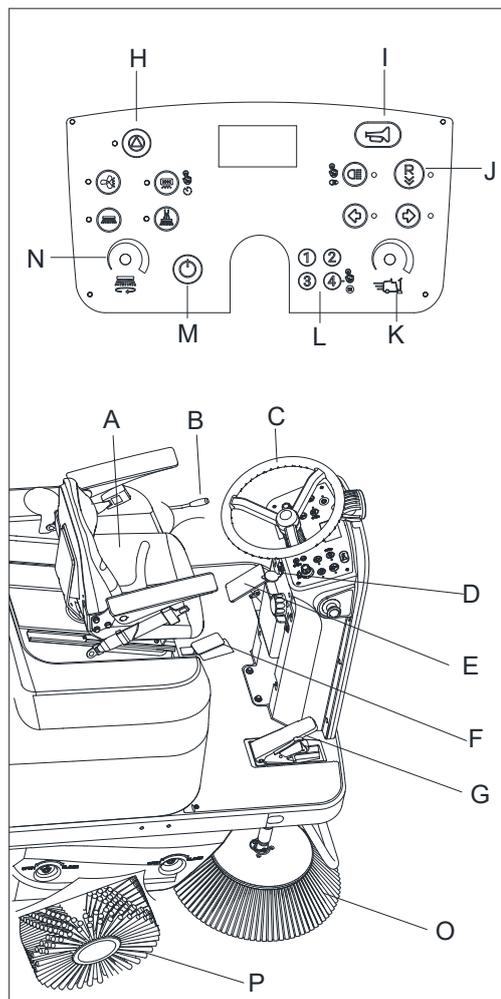

Figure 8
1. Sit on the driver's seat (A, Figure 8) and adjust its position with the lever (C, Figure 8) to allow easy reach of all controls.
2. Press the power button (M, Figure 8). Check the battery level on the display. If needed, charge the battery (refer to the maintenance section).
3. Use the 4-digit pin pad (L, Figure 8) to enter the password. The default password is 1234.
4. After successfully logging in, release the brake (E, Figure 8), press the accelerator pedal (G, Figure 8) and drive the machine to the work area.
5. Press the start button (H, Figure 8) to start the cleaning mode. The side brooms and main broom will automatically lower to the ground, and the dust fan will start working.
6. Press the accelerator pedal (G, Figure 8), and steer the machine by holding the steering wheel (C, Figure 8) while pressing the reverse button (J, Figure 8) to drive the machine forward or backward. Adjust the driving speed using the machine speed dial (K, Figure 8).
7. Adjust the side broom speed using the side broom speed dial (N, Figure 8) according to cleaning requirements.
8. When the machine is on, you can charge devices such as a phone or pad via the USB charging port (D, Figure 8).
9. Press the horn button (I, Figure 8) to warn people when necessary.
The suction system of the machine will only operate when the main broom is lowered. The main broom and side brooms (P and O, Figure 8) can be lifted or lowered even while the machine is running. The main broom and side brooms do not rotate when they are lifted.
10. Start sweeping by turning the steering wheel (C, Figure 8) and driving the machine forward with the accelerator pedal ((G, Figure 8).
11. Release the accelerator pedal (G, Figure 8) to stop the movement.
12. Press the start button (H, Figure 8) to turn off the main broom, side broom and dust fan. The main broom and side brooms are lifted from the floor automatically. The dust fan system is turned off after a delay of several seconds.
4. To collect light and bulky waste materials, lift the front blade by pressing the flap pedal (F, Figure 8); take into consideration that the machine vacuum capability is reduced when the front blade is lifted.